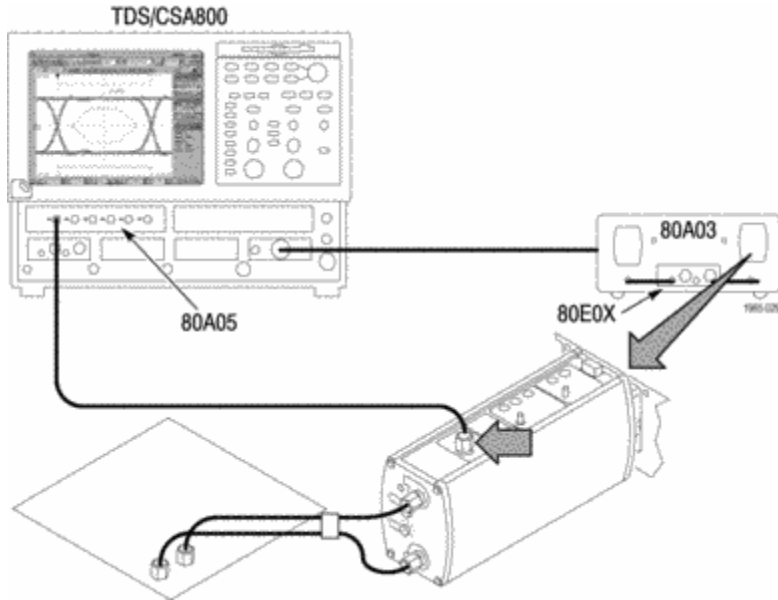

Figure 9: Using the probe with an 80A03 Interface and an 80A05 Module to view eye diagrams on a TDS8000 Series sampling oscilloscope
**80A05 Clock Recovery Module.** Add an 80A05 Clock Recovery Module to your sampling oscilloscope, and use the Aux output of your P7313SMA probe to trigger the module on the input signal and view eye diagrams. The 80A05 module generates a recovered clock from an acquired data stream when the data rate is known. (See Figure 9 on page 41.)